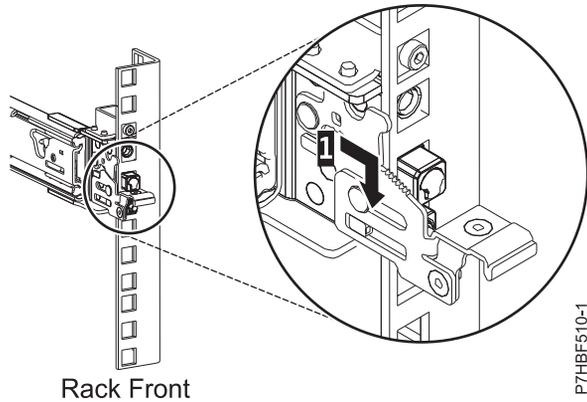

Figure 3. Pins that are seated on the front rail of the rack
3. At the front of the rack, insert three pins on the front of the rail into the holes within the selected EIA unit that were previously marked. Lower the slide rail down (1) to engage the hook feature on the middle pin. For details, see Figure 3 on page 5.